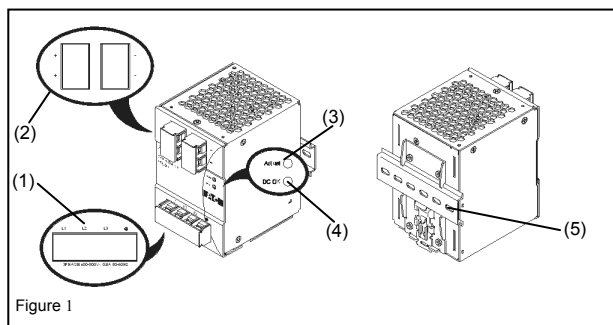

Figure 1
2. Device description (Fig. 1)
5.1. Input connection (Fig. 1 and Fig. 5)
5.2. Output connection (Fig. 1 (2))
Use the "+" and "-" screw connections to establish the 24 VDC connection. The output provides 24 VDC. The output voltage can be adjusted from 22 to 28 VDC on the potentiometer. The green LED DC OK displays correct function of the output (Fig. 1 (4)).